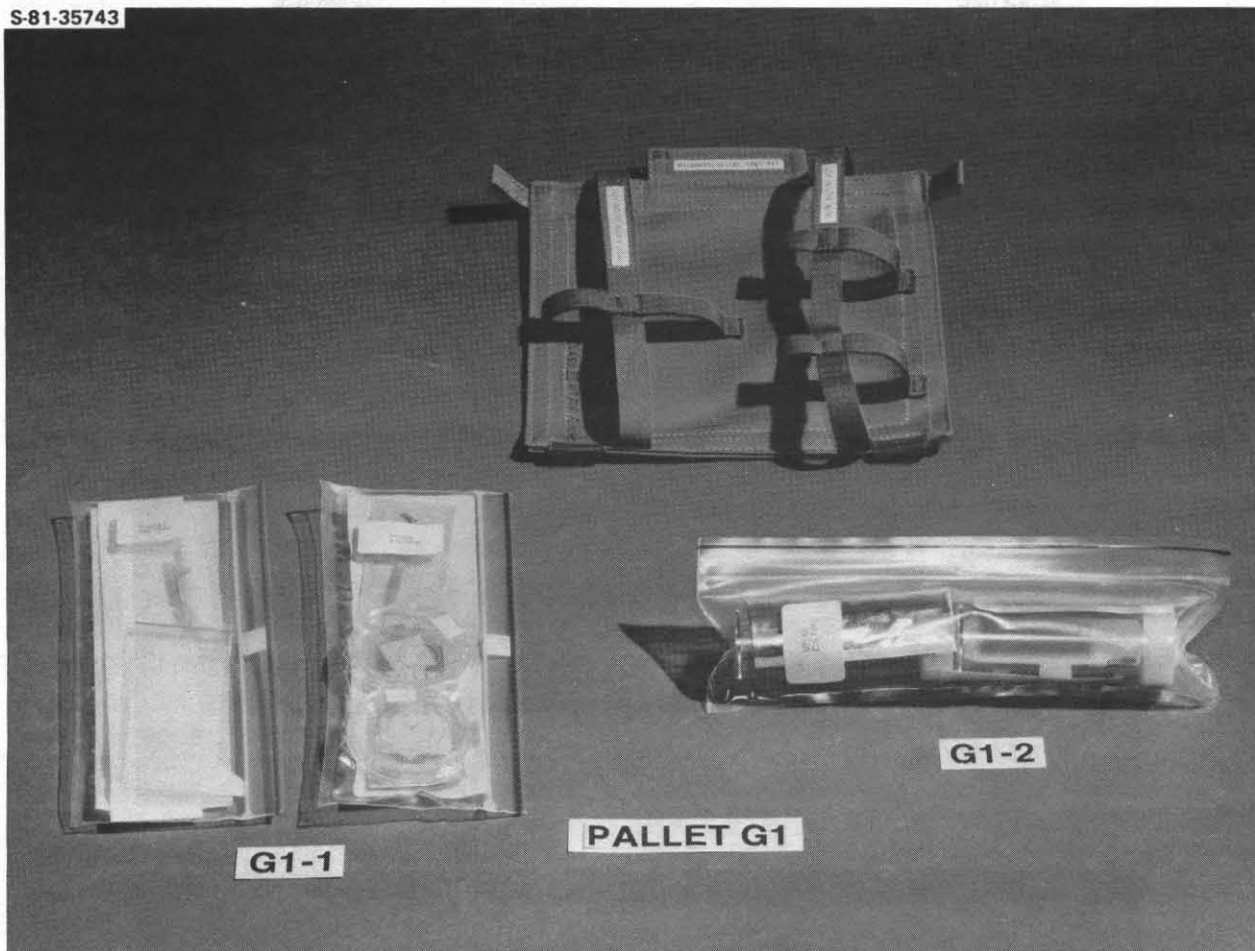

Figure 3.19-5.- SOMS, pallet G - microbiological test items.
- Pallet G, Microbiological test items (fig. 3.19-5)